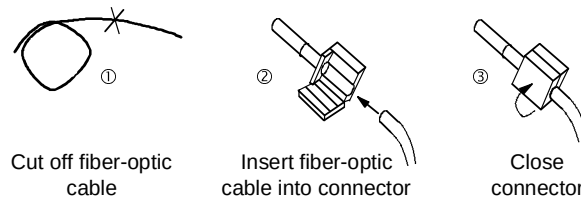

Fig. 4-2 Connecting the cable
1. Cut off the required length of fiber optic cable by cutting at right angles to the cable. Use a **sharp** knife for this purpose (Fig. 4.2 ①).
3. Put the fiber optic cable into the plug-in connector (Fig. 4.2 ②) and push it into the cylindrical sleeve as far as it will go. The transparent fiber optic cable then protrudes from the sleeve.
4. Fold round the gripping halves of the plug-in connector and close it by hand (Fig. 4.2 ③). When the top gripping half latches into the lower one, the cable is fixed firmly in the connector.